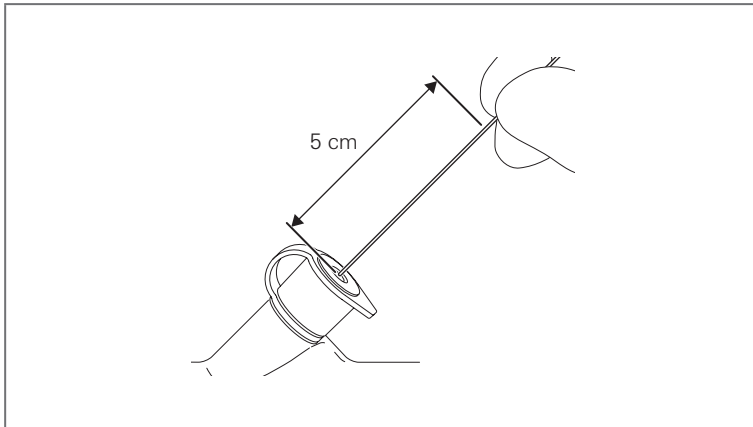

Figure 4.6
1. Ensure that the distal tip of the endoscopic device is closed or retracted into the sheath. In case of biopsy forceps, operate the forceps to fully close the cups at the tip. There is a certain amount of resistance when inserting for the first time. Hold the shaft at approximately 5 cm away from its end, and press it in. (See Figure 4.6)